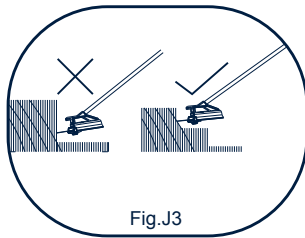

Fig.J3
- 5) Trim in steps when the grass is very high. Do not cut the total height in once. (See. Fig. J3)